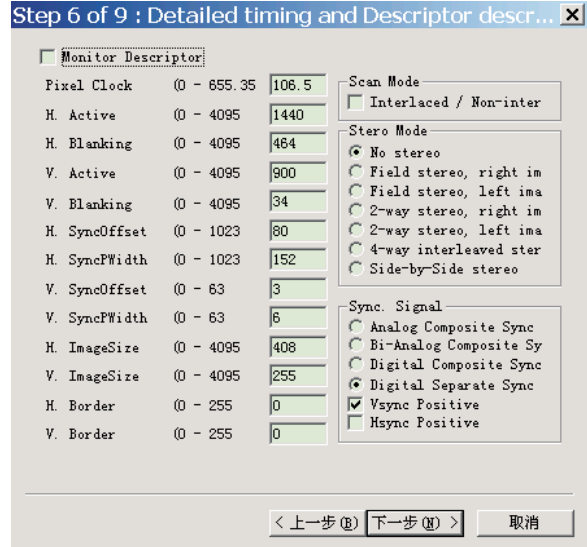

Fig. 36
5. Click Next , bring up Fig. 36.